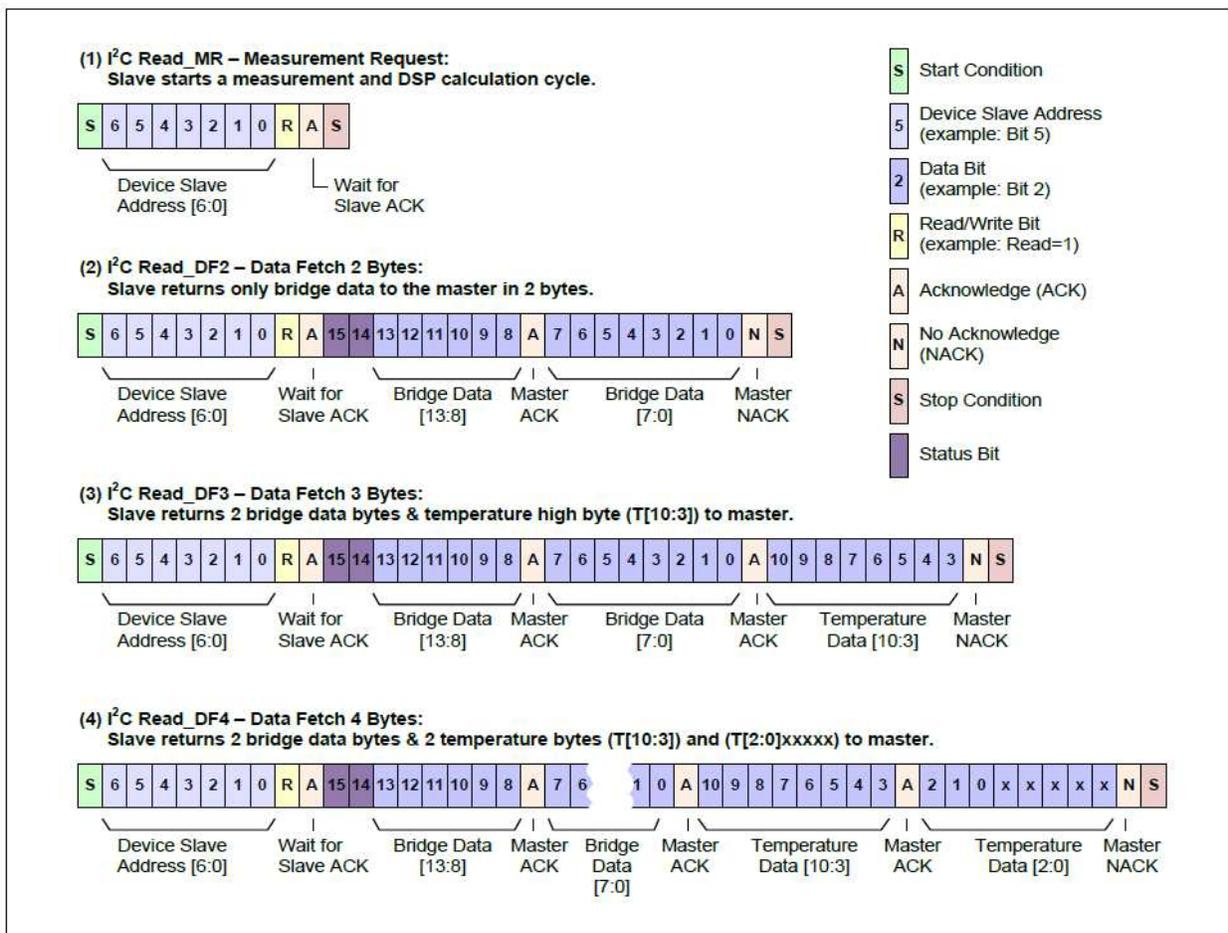

Figure 3-7: Read Measurement Request Bitmap
The Read\_MR (see example 1 in Figure 3-7) communication contains only the slave address and the READ bit (1) sent by the master. After the ZSC31014 responds with the slave ACK, the master must create a stop condition. This is only used in Sleep Mode (see section 3.1.2) to wake up the device and start a complete measurement cycle (including the special measurements) followed by the DSP calculations and writing the results to the digital output register. The I2C Read\_MR function can also be accomplished using the I2C Read\_DF2 or Read\_DF3 command and ignoring the “stale” data that will be returned.
For Data Fetch commands, the number of data bytes returned by the sensor is determined by when the master sends the NACK and stop condition. For the Read\_DF3 data fetch command (Data Fetch 3 Bytes; see example 3 in Figure 3-7), the 8MPP2 returns three bytes in response to the master sending the slave address and the READ bit (1): two bytes of bridge data with the two status bits as the MSBs and then 1 byte of temperature data (8-bit accuracy). After
The Read\_DF2 command is used if corrected temperature is not required. The master terminates the READ operation after the two bytes of bridge data (see example 2 in Figure 3-7).
Every Data Fetch Measurement Packet contains two status bits in the MSBs of the first byte, see Figure 3-7. These bits are used to determine the status of the data being fetched.